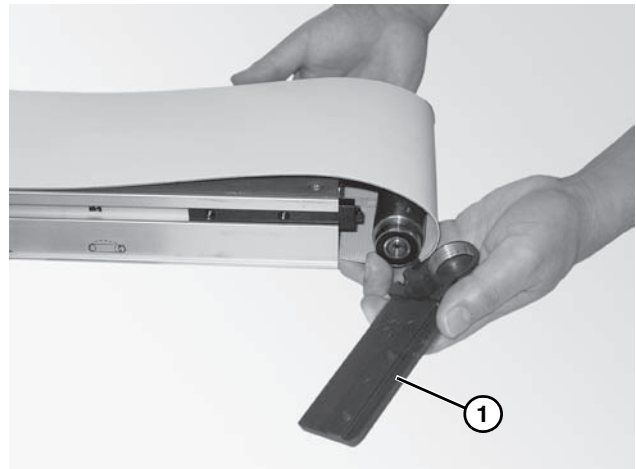

Figure 36
2. Remove the head plate (**Figure 36, item 1**) from the conveyor frame.